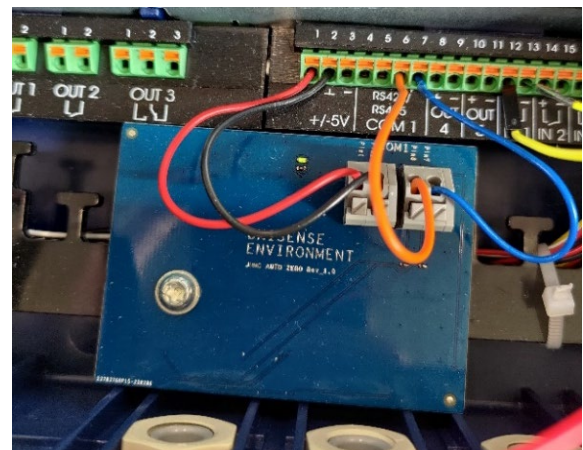

Figure 2
5. Connect the wires, carefully pushing in contacts with a -screwdriver. The corresponding numbers are written on the PCB and can be seen in Fig 2.